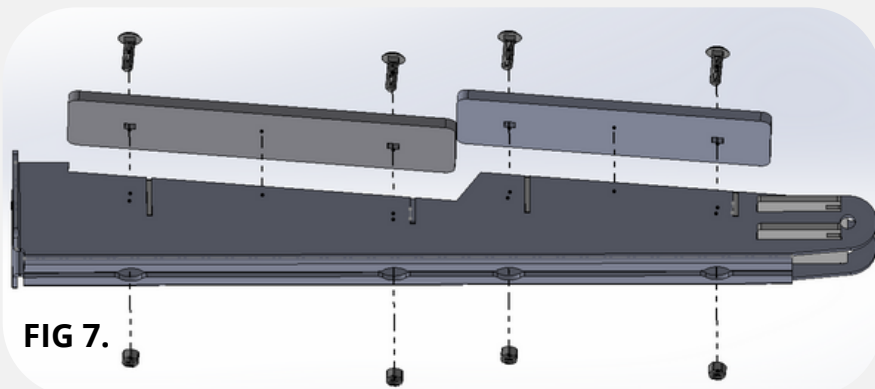

FIG 7.
8. Assemble Stand Protector Plates, to Upright with 3/8" x 1-1/4" Carriage Bolts and 3/8" Nylon Nuts, as shown in Fig. 7. (4 pcs)